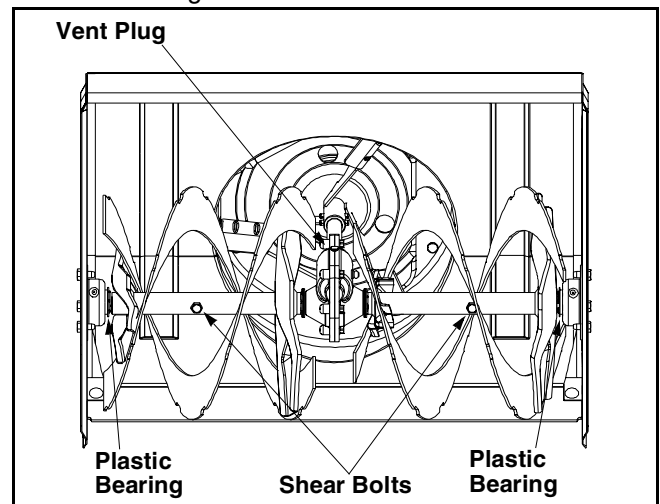

Figure 14
IMPORTANT: Do not overfill the gear case, since damage to the seals could result. Be sure the vent plug is free of grease in order to relieve pressure. See Figure 14.
At least once a season, remove the shear bolts on the auger shaft. Spray lubricant inside the shaft and lubricate the plastic auger bearings at least once a season. See Figure 14.
- The augers are secured to the spiral shaft with two shear bolts and hex lock nuts. If you hit a hard foreign object or ice jam, the snow thrower is designed so that the bolts may shear. Refer to Figure 14.